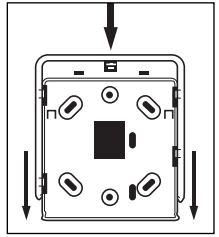

FIGURE 4
1. From back of CO alarm, slide mounting plate and lift from base. See Figure 4.